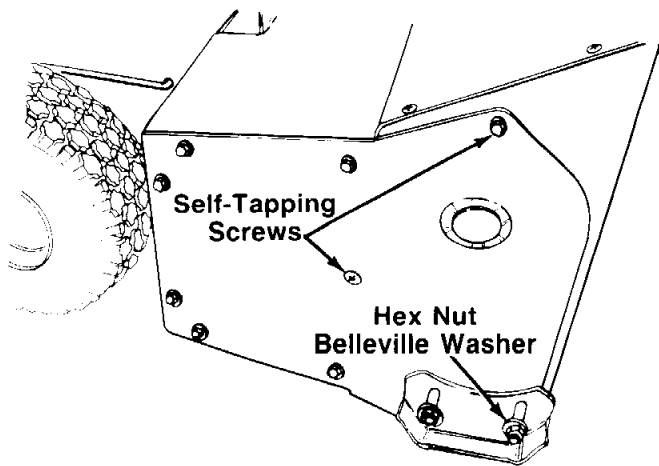

FIGURE 27A.—Model 31340
- a. **Model 31340:** Remove the hex nut and belleville washer from the front of the skid shoe. Remove the two self-tapping screws shown in figure 27A.